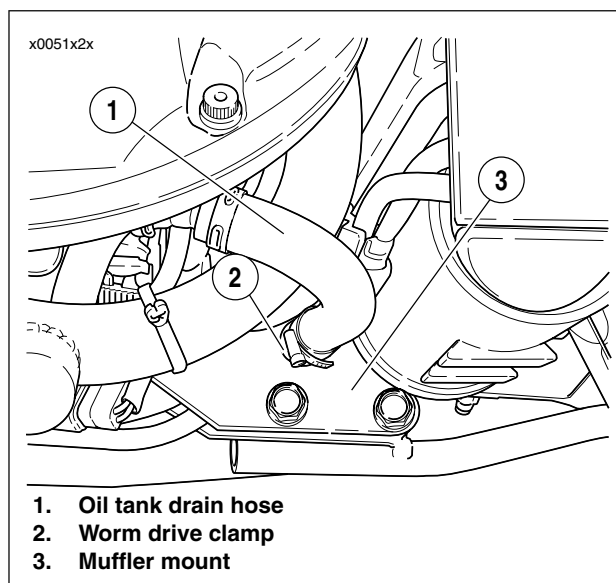

Figure 1-2. Oil Tank Drain Hose
3. See Figure 1-2. Locate the oil tank drain hose. The drain hose is secured to a lug on the rear muffler mount.